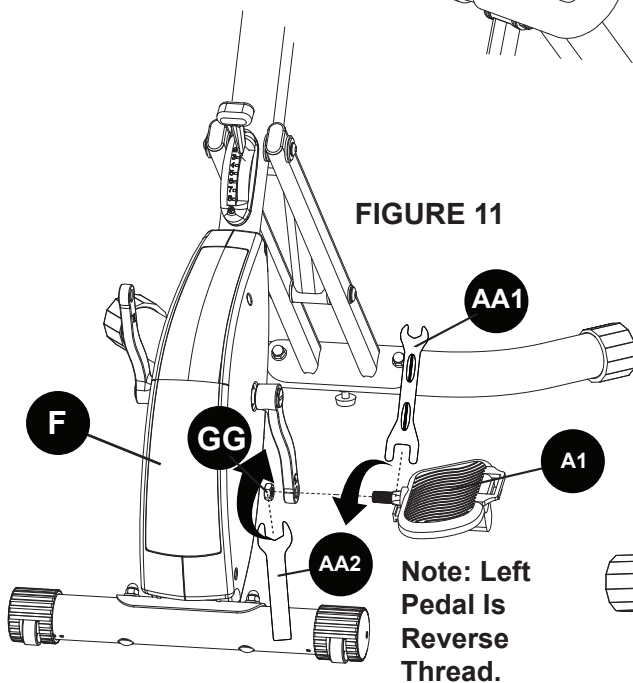

FIGURE 11
Step 11: Using the supplied Wrenches (AA1) (AA2) attach the Left Pedal (A1) to the crank arm by tightening the pedal and holding the back nut at the same time. (Left Pedal is reverse thread) **Figure 11**